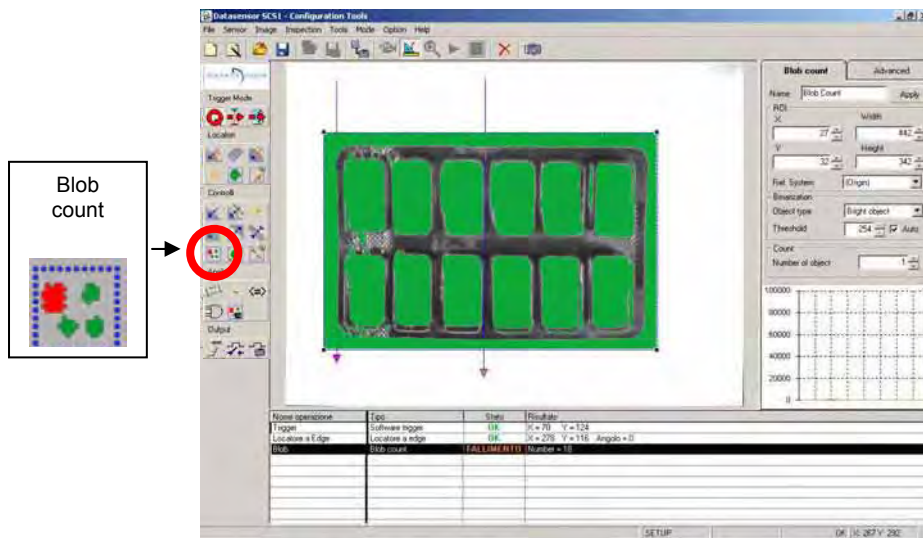

Figure 13
- Select the tool clicking on the toolbox icon (Figure 13) or from the menu (Operators → Controls → Blob Count).